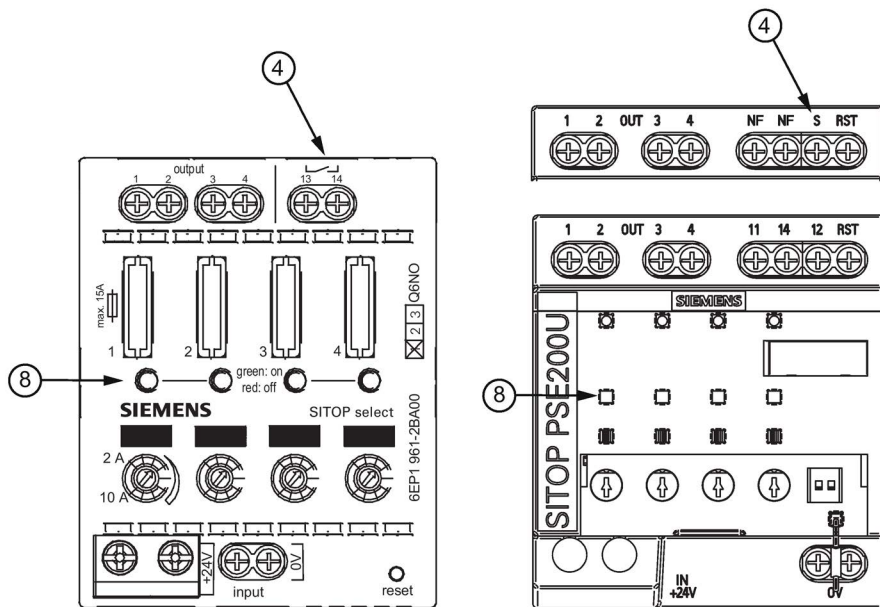

Figure 2-4 Operating displays and signaling (SITOP select and SITOP PSE200U)
Using the group signal contact or status output ④, the operating state of the device can be processed (function and contact rating, see Chapter Figure 2-4 Operating displays and signaling (SITOP select and SITOP PSE200U) (Page 15)).